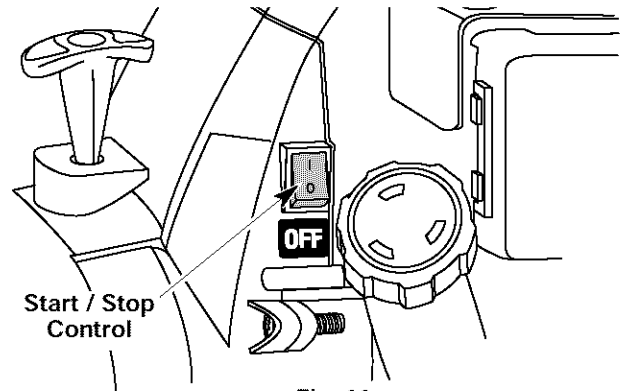
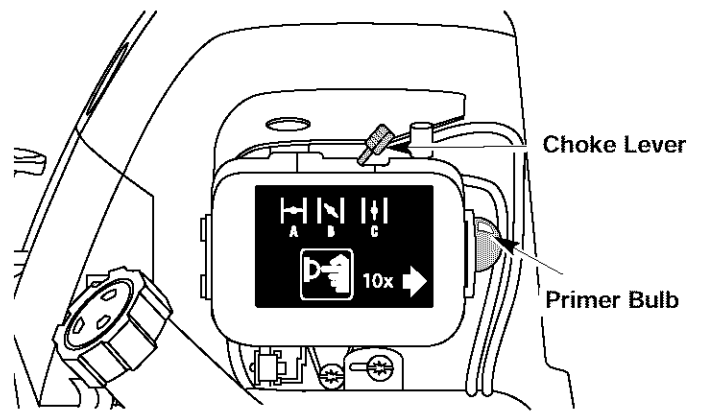

Fig. 11
Fig. 12
3. Put the Start/Stop Engine Control in the **START (I)** position (Fig. 11).
4. Place the choke lever in the **FULL** choke (A)  position (Fig. 12).
NOTE: Slide the choke lever directly above the appropriate symbol on filter cover decal (Fig. 12).
5. Fully press and release the primer bulb slowly 10 times until **FUEL IS VISIBLE IN THE PRIMER BULB**. If you can't see fuel in the bulb, press and release the bulb as many times as it takes before you can see fuel in it (Fig. 12).
8. Move the choke lever to the **PARTIAL (B)**  position (Fig. 12).
NOTE: Choking is unnecessary when starting a warm engine. Put the On/Off Stop Control in the **ON** position (Fig. 11), and start in **PARTIAL** choke (B ) position (Fig. 12). After starting, place the choke lever in the **RUN (C)**  position.
2. Put the On/Off Stop Control in the **OFF (O)** position (Fig. 11).